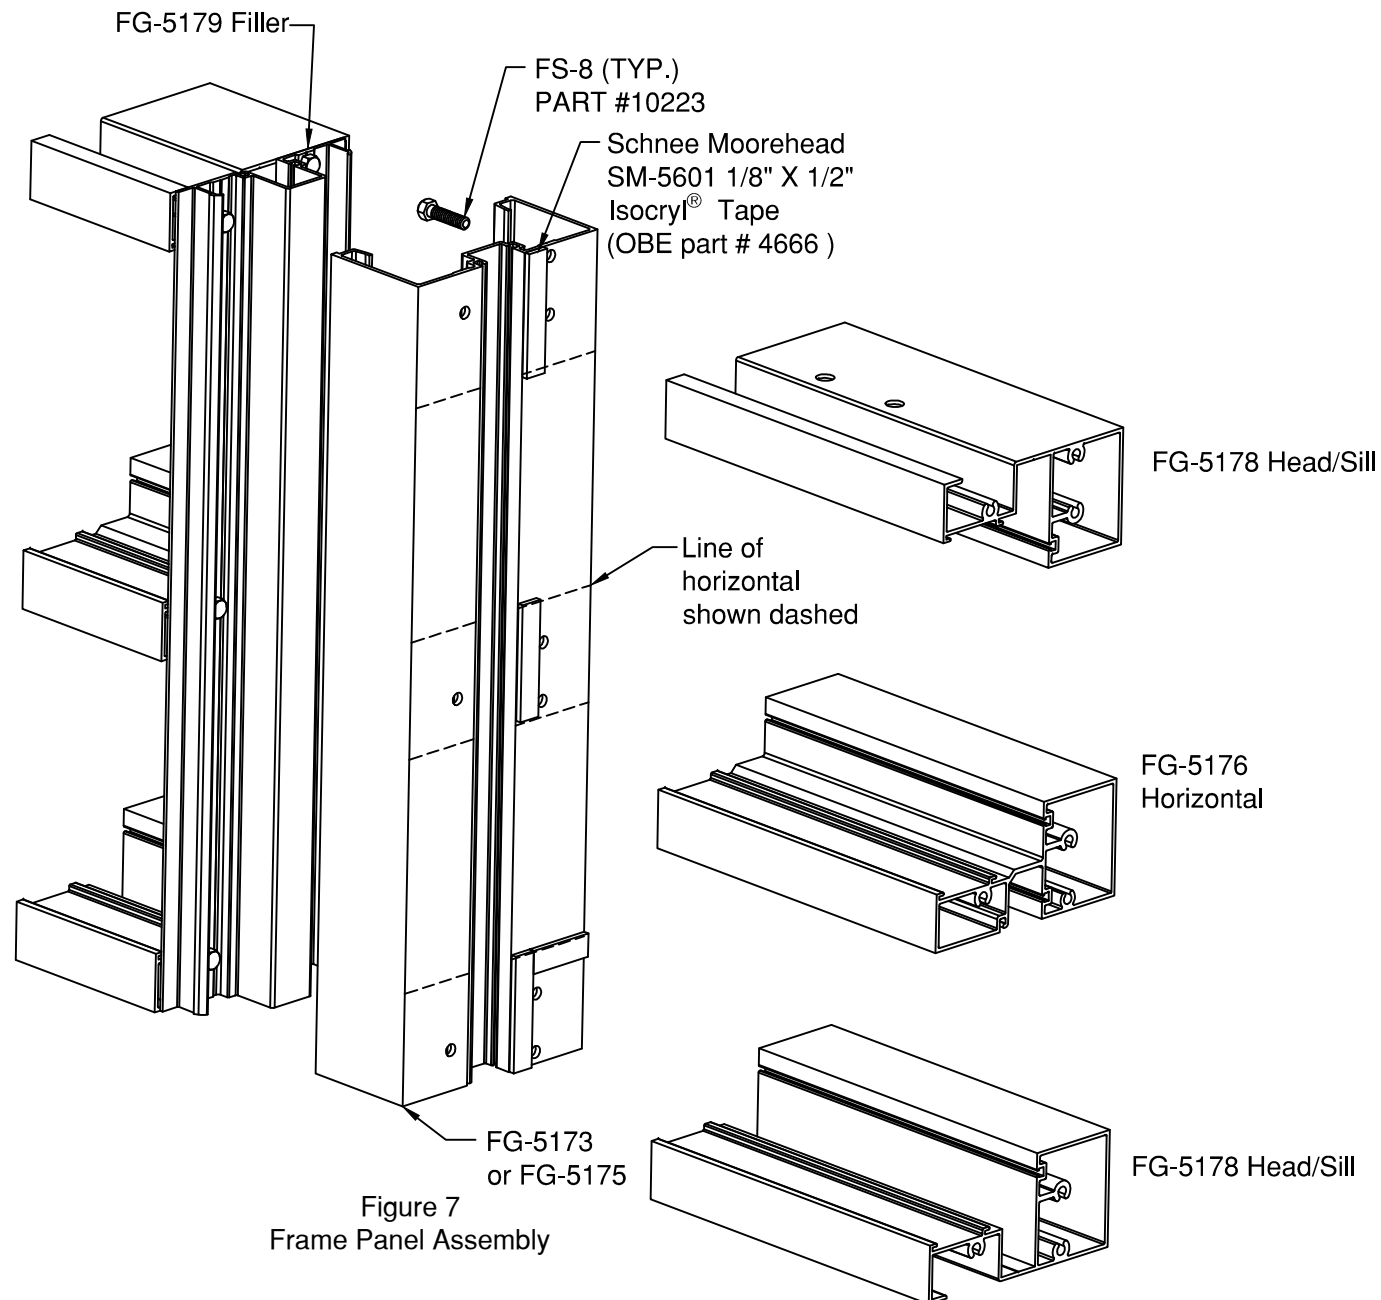

Figure 7
- 2.2.1 Clean framing members at locations where Isocryl® Tape is noted to be attached. SEE FIGURE 7, at tape intersection there should be no gaps.
Note: also install FG-5185 at vertical , if it was not installed prior to attaching horizontals **see Figure 7 on sheet 7** .